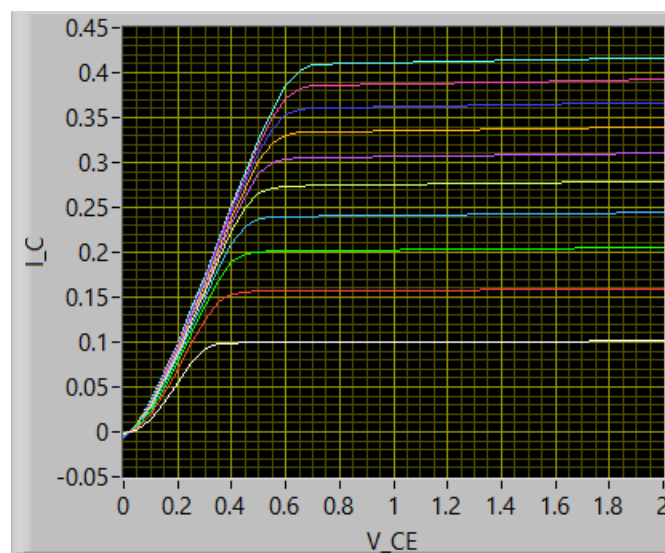
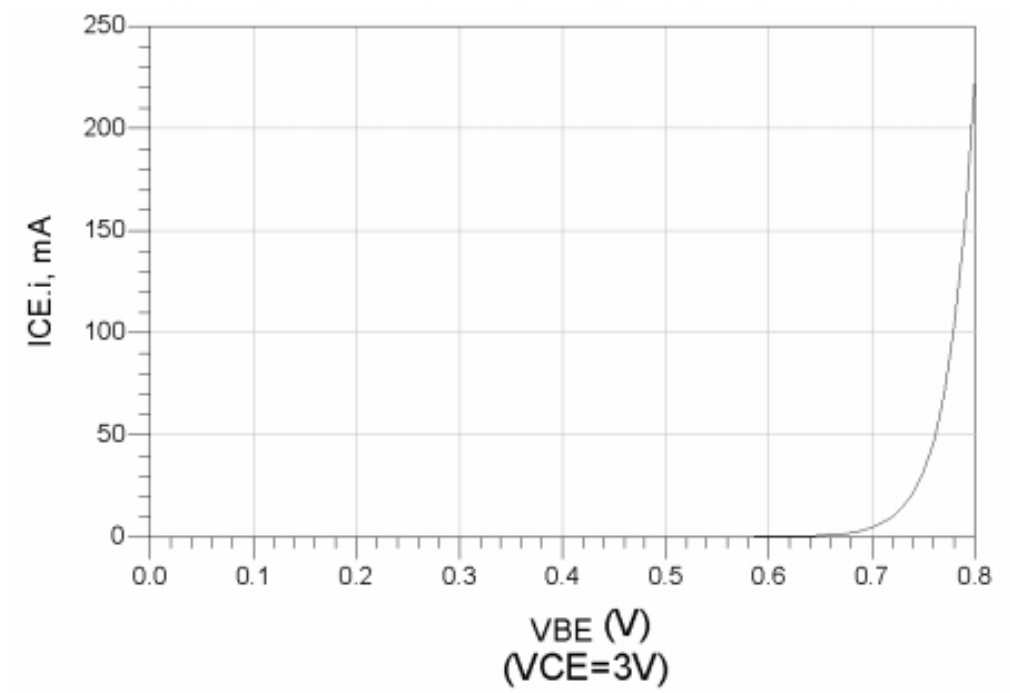

Figure 2: Plot of the I-V curves of a 2N3904 transistor sweeping V_{CE} (in Volts) for different I_B (in Amps)
Figure 3: Plot of an I-V curve of an example transistor sweeping V_{BE} with a fixed V_{CE}
Figure 2 shows an example of an I-V curve of an NPN BJT transistor. As its name would imply, an I-V curve plots the device current of the device against a sweep of terminal voltage. Figure 2 shows an example of collector current as the collector-emitter voltage is changed, with a separate curve for different base currents. This family of curves is organized by base current since the diode-like characteristics of the current vs. base-emitter voltage would make the voltages of each curve very similar (and highly susceptible to process variations). Figure 3 shows the opposite type of curve, with a plot of collector current as the base-emitter voltage is swept. The collector-emitter voltage is not changed as this does not affect the family of curves significantly. This curve does not give as much insight as the first curve, but is shown as a comparison (more information could be obtained if I_{CE} was plotted on a log scale instead of a linear scale, but is still not as useful).
To run the simulation of Figure 2 yourself, simply go to the following URL, and click **BjtAnalyzer_NPN_figure2.ms14**. Select **Open With: Multisim 14.2**, then hit **OK**. Once open, select **Simulate** → **Run**, then double click the **XLV1** component in the workspace.
For this section, you will generate a plot similar to Figure 2 by plotting I_C vs. V_{CE} . The figure shows several curves for different I_B values. You will produce one curve at a single constant I_B value that gives I_C in the active region around 2 mA.
4. Define each of the regions the from the I_C - V_{CE} for your graph and for figure 2 of the introduction.